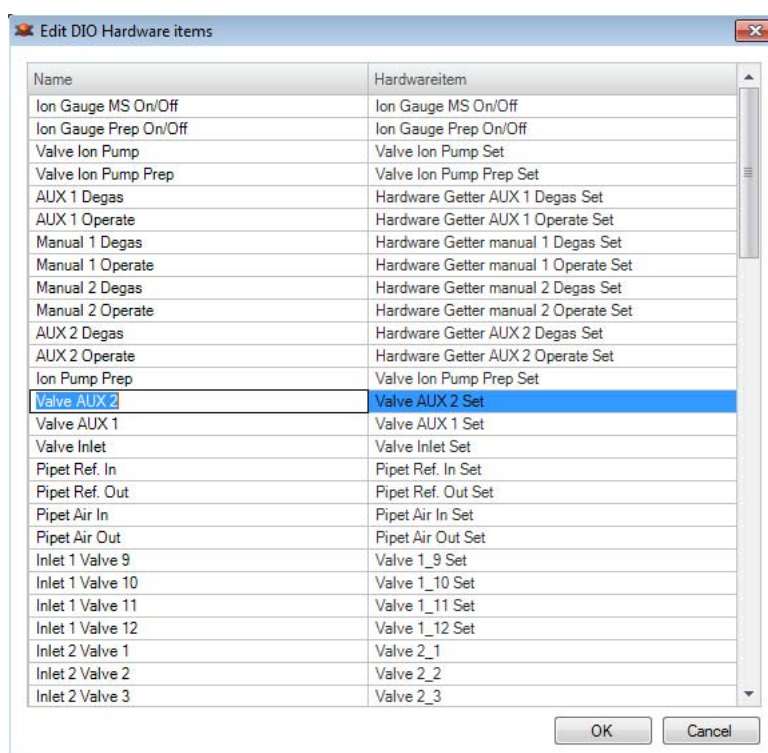

Figure 2-7. DIO Hardware items window
1. Click **Edit DIO List** to open the **Edit DIO Hardware items** window, see Figure 2-7.